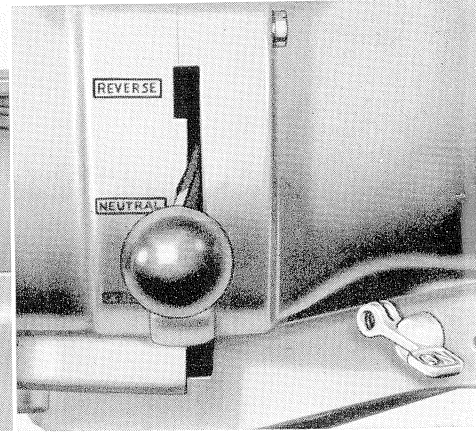

Figure 12
2. Move gear shift lever to center or “neutral” position (Fig. 12).